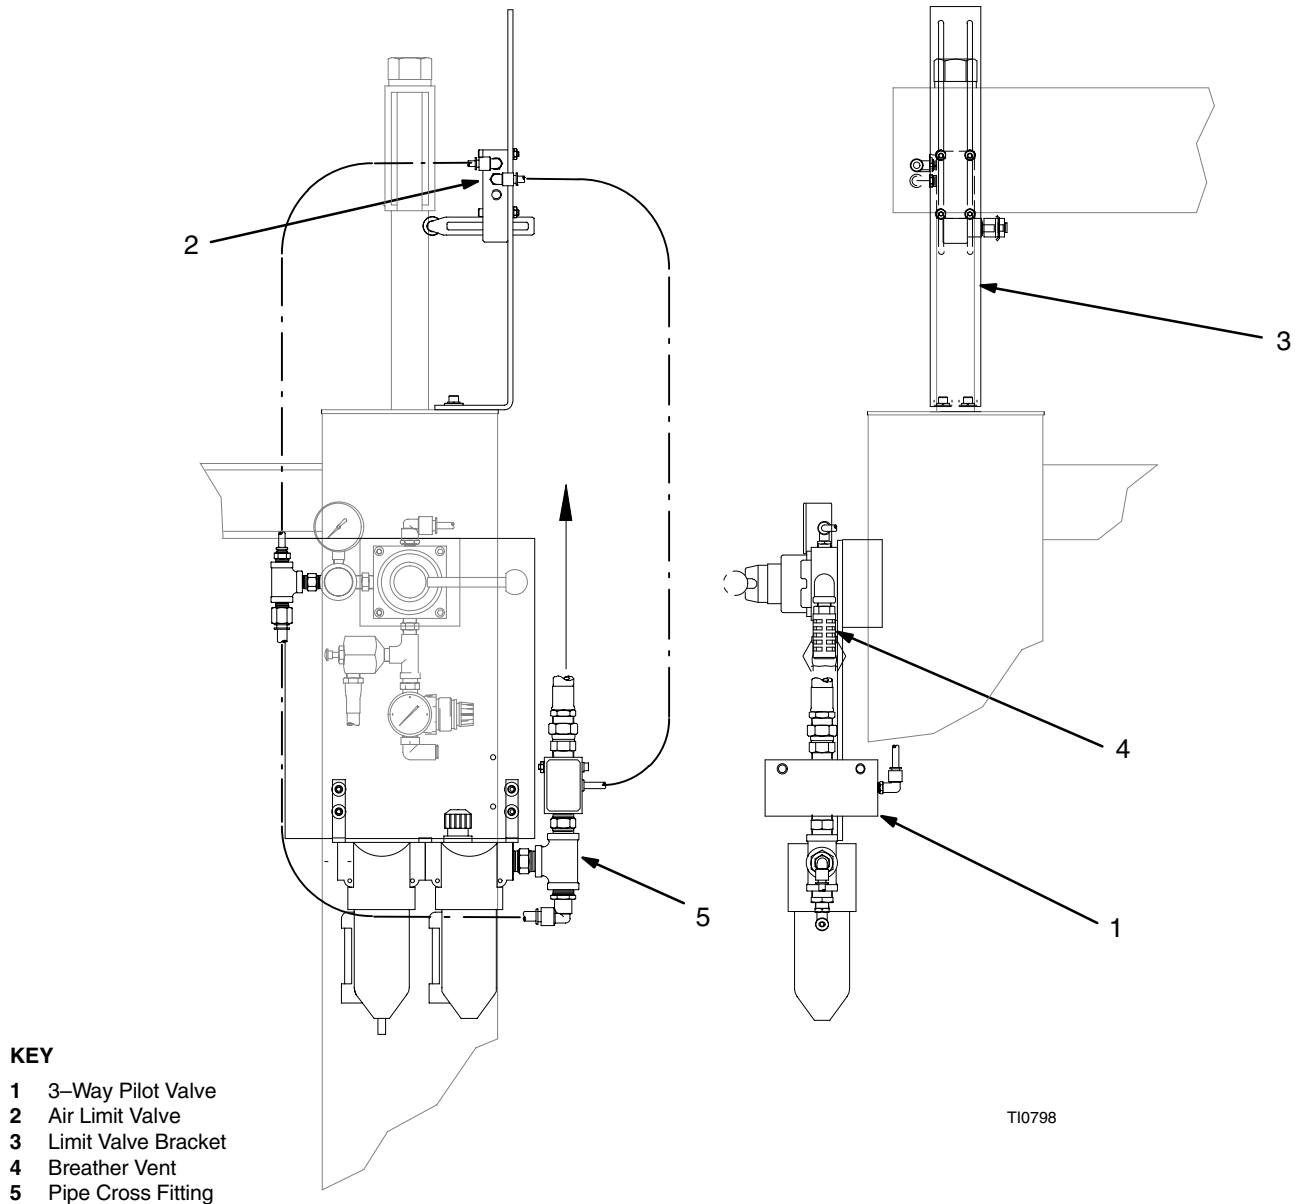

Fig. 4
Setup the low-level shutoff as shown in Fig. 4.
NOTE: The position of the air limit valve (2) on the ram determines when the ram air motor is turned on and off. During operation, this position can be adjusted as desired. See Fig. 4.